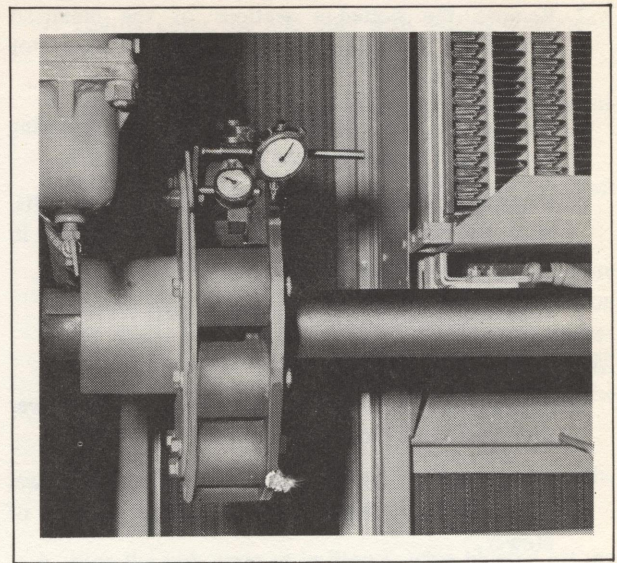

FIG. V-17. CHECKING ALIGNMENT BETWEEN COMPRESSOR AND FAN GEAR UNIT.
6. Mount indicators as shown in Figs. V-17 and V-18. Rotate the fan shaft 360 degrees to check parallel and angular alignment. Total parallel indicator reading should be within 0.015 in. Total angular indicator reading should be within 0.005 in.